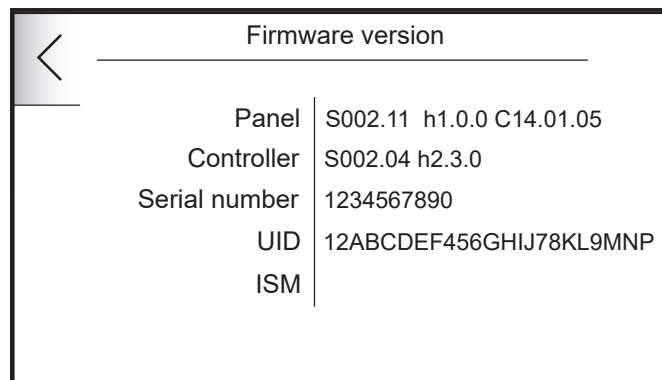

Figure H-4: Firmware version and UID
4. Then tap 'FIRMWARE VERSION'. Refer to Figure H-4.